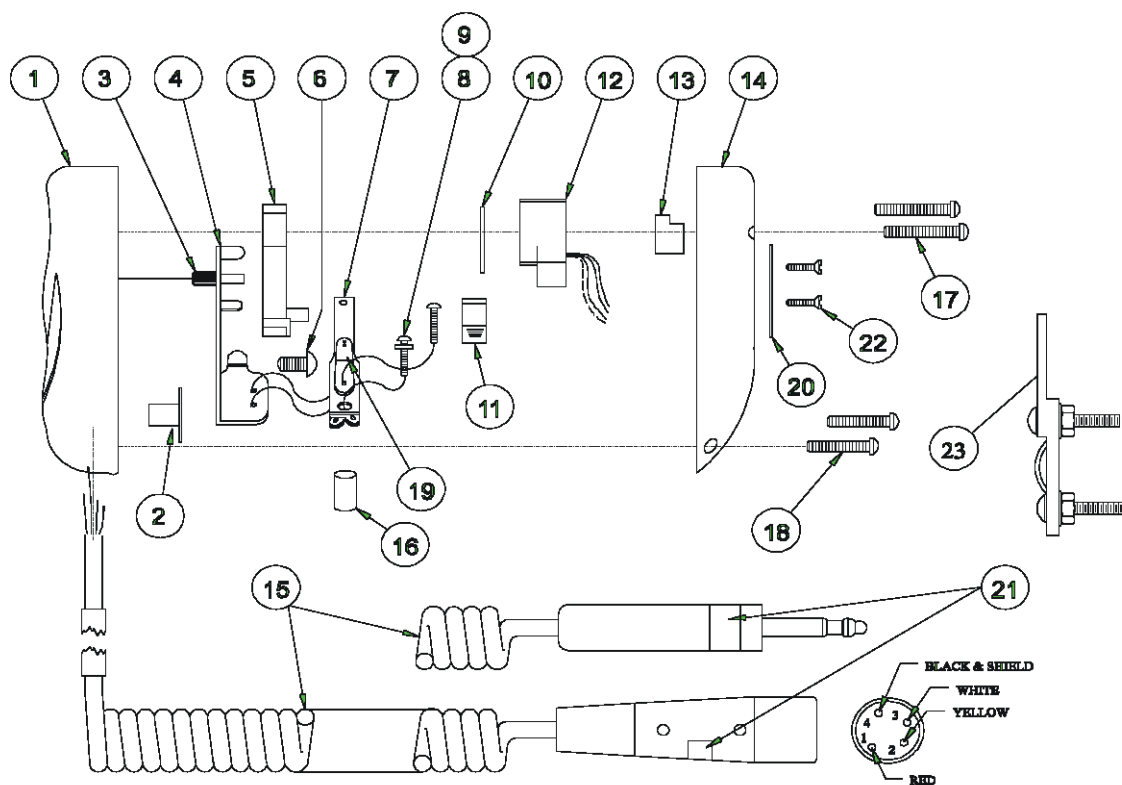

FIGURE 3. 903E Parts Assembly
2. **Disassembly:** See Figure 3